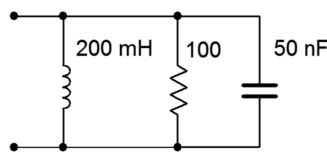

Figure 3.3
3. Determine the effective impedance of the network shown in Figure 3.3 at 5 kHz.